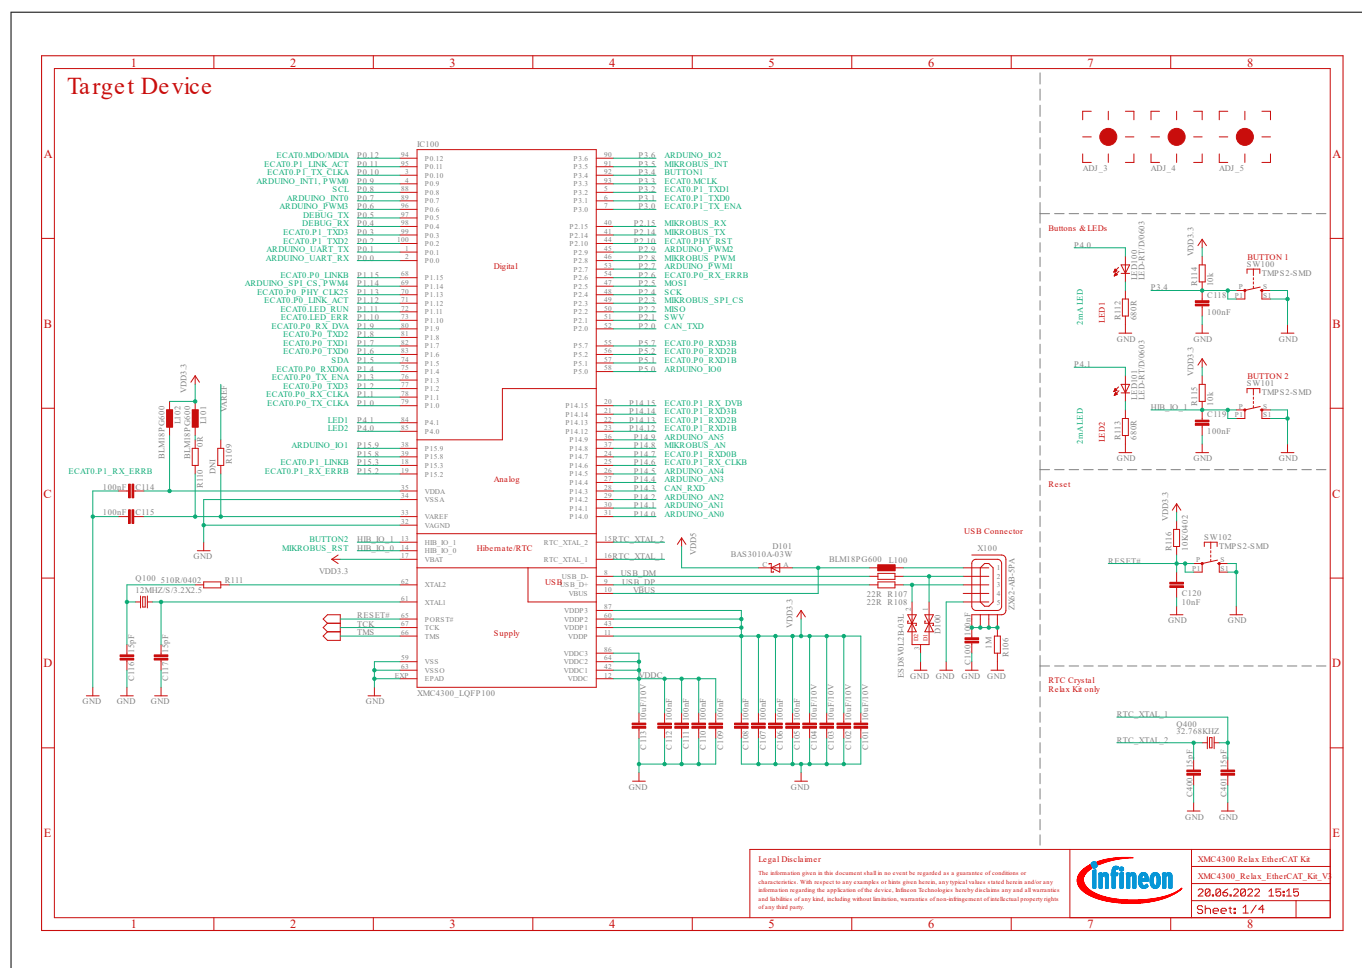

Figure 13 Schematic: MCU, Push Buttons, LEDs, Reset Button, Crystals, USB (see revision Revision 1.1)
- Figure 13 (See Revision 1.1)